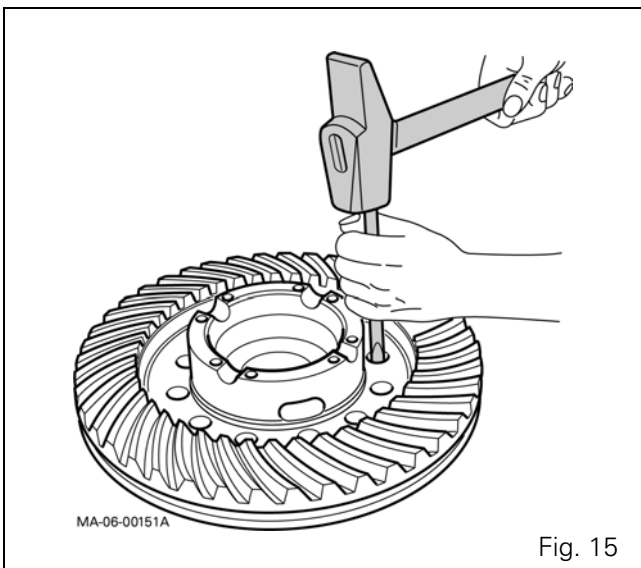

Fig. 15
49. Drive out the rivets using a suitable drift punch (Fig. 15).